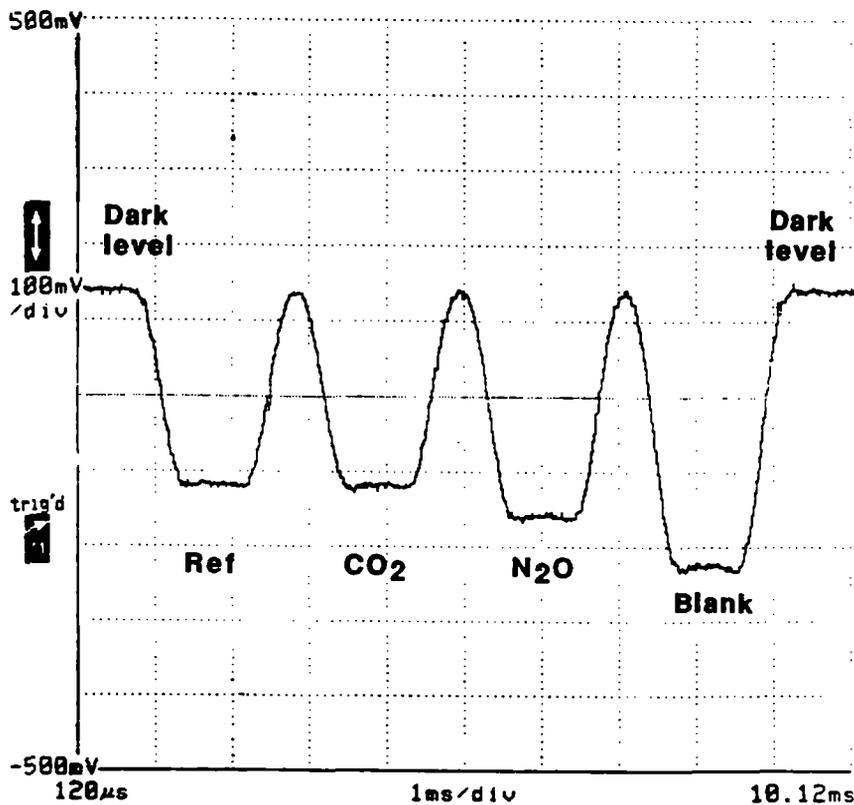

Figure 3-3. Waveform, Typical Preamplifier Output
The last position on the filter wheel contains no filters at all. It is opaque to infrared light and is referred to as the "dark level" position. The dark level is used by the signal processing circuitry in performing gas channel calculations. The resulting waveform is also used for motor speed control. The complete waveform is shown in Figure 3-3.
**Detector:** The detector measures the energy of the infrared beam after it passes through the sample cell and generates a series of electrical pulses as shown in figure 3-3. It is a hermetically sealed lead selenide (PbSe) photoresistor, mounted on a thermo-electric cooler. The cooler maintains the detector at 5 C (41°F) by means of a servo circuit on the SMR board.
The gain of the preamplifier is controller by a potentiometer and is set at the factory to produce an optimum peak-to-peak voltage between the reference pulse and the dark level pulse (see Figure 3-3).